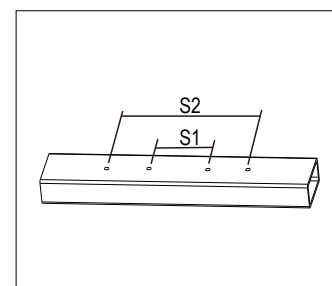

Figure 3
2. Drill two holes at the marked spacing (S1 or S2) on the mounting bar (Figure 3).